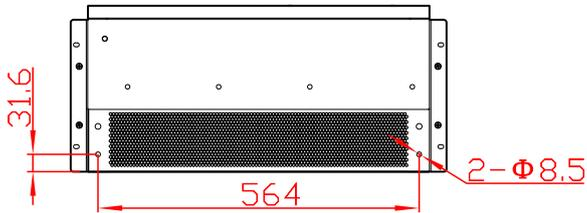
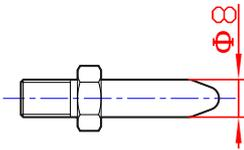

Figure3-7 Rear position hole size
Figure3-8 Position pin size
- When the PCS is installed into the energy storage system and needs to be transported with the system together, we suggest to fix the PCS by position pins. The PCS has two holes at the back of the PCS (size as shown in Figure3-7) to fix the position pins. The position pin size please see Figure3-8.